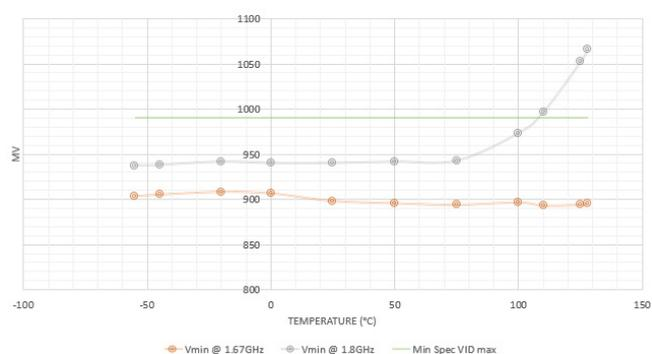

Figure 5: Example of 1.8 GHz clock frequency limitation at high temperature (>100°C).
- **Functional performance:** At higher temperature, a processor might not meet all its electrical requirements. Teledyne e2v characterization shows that maximum clock frequency may need to be reduced to comply with datasheet electricals (see Figure 5). Thus, some specifications might need to be scaled back compared to the standard component if it is to be successfully used over the extended temperature range.